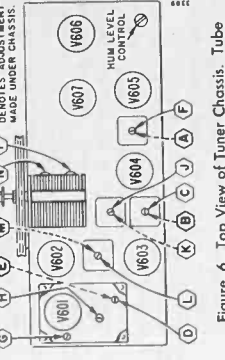

Figure 6. Top View of Tuner Chassis. Tube locations and alignment points shown.
- Refer to figure 6 for physical location of alignment points.
Tube locations for the tuner and amplifier are shown on figures 6 and 7. Alignment points for the tuner are shown on figure 6.
A **Hum Level** control is located on the tuner chassis, see figure 6. Hum may be further reduced, if necessary, by adjusting this control.